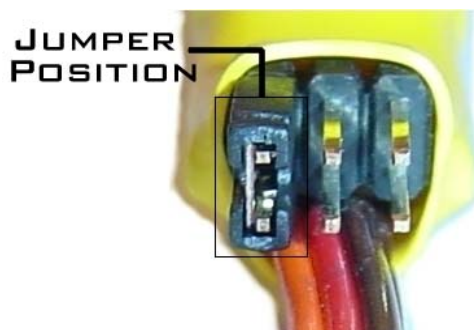

Figure 1. Jumper Position for Calibration
3. Remove any servos connected to WingMax's output pins and connect the jumper across WingMax's output signal pins on channel 1 and channel 2 (see Figure 1).